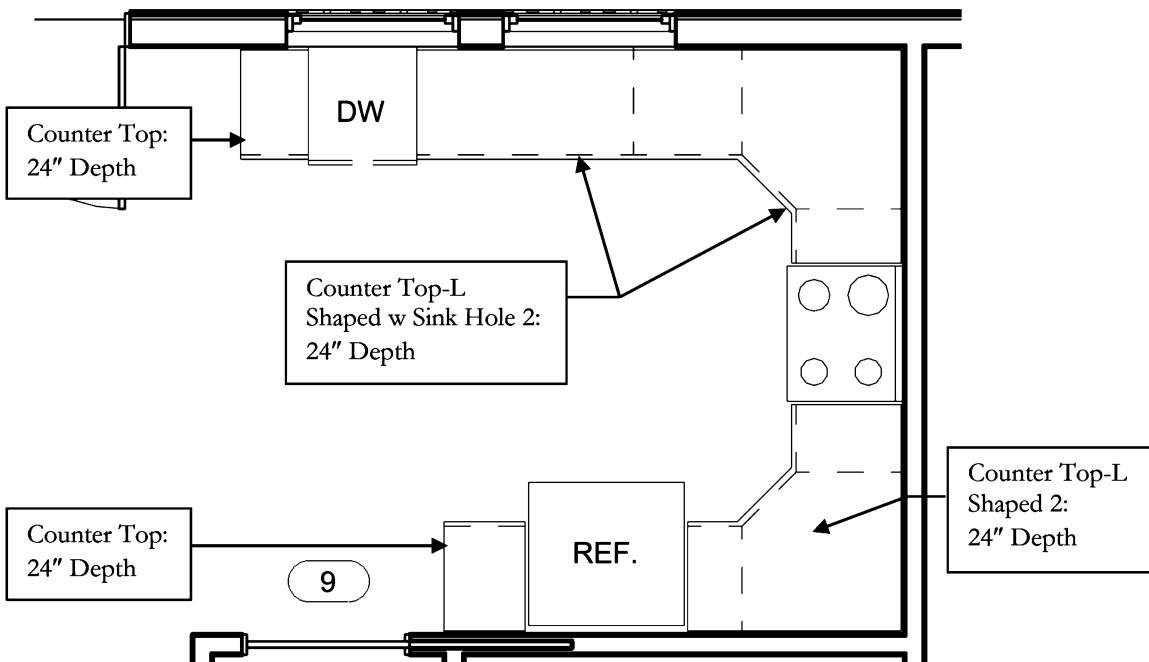

FIGURE 12-2.2 First Floor Plan View: countertops added
Next, you will add the countertops to the base cabinets. You will place three separate countertop elements (Figure 12-2.2). You will adjust the lengths of the countertops to fit the cabinets below.
5. Per the steps listed below, add the **countertops** shown in Figure 12-2.2, using *Snaps* to accurately place them.